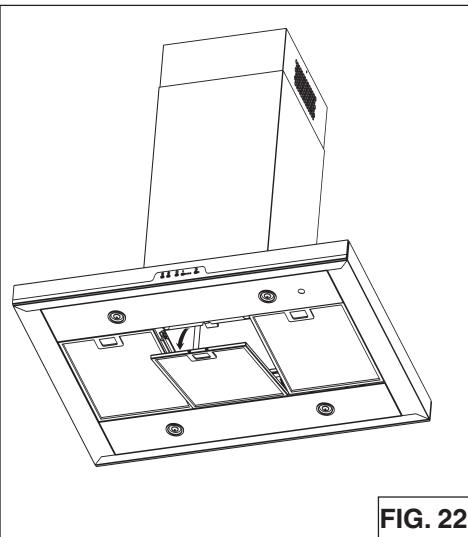

FIG. 22
1. To remove the GREASE filter, pull down on latch tab to disengage the filter from the hood. Tilt the filter downward and remove (Fig.22).